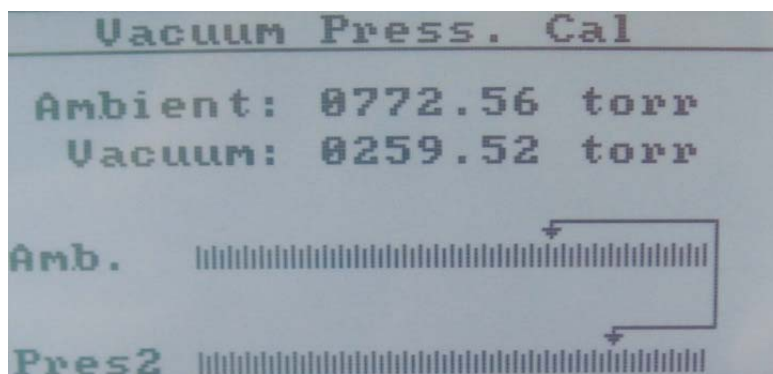

Figure 10 Pressure menu
7. The screen will display two horizontal bar (Figure 10) the first (Amb) is for the ambient pressure sensor, the second (Pres2) is for the cell pressure sensor
7. The screen will display two horizontal bars (Figure 10) the first (Amb) is for the ambient pressure sensor, the second (Pres2) is for the cell pressure sensor